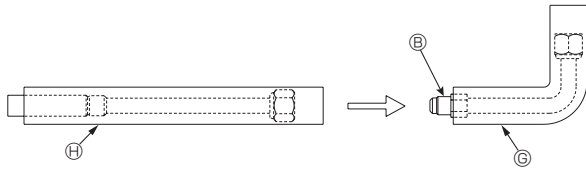
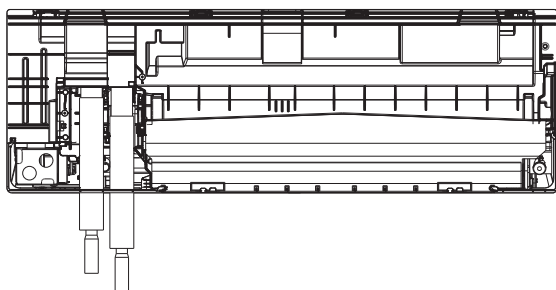

Fig. 3-14
Fig. 3-22
3.3.4. How to install connecting pipes Ⓒ and Ⓓ (For WL12/15 model) (from Fig. 3-14 to Fig. 3-22)
- (1) Connect two sets of L-shape connection pipes Ⓒ and I-shape connection pipes Ⓓ. (Fig. 3-14)